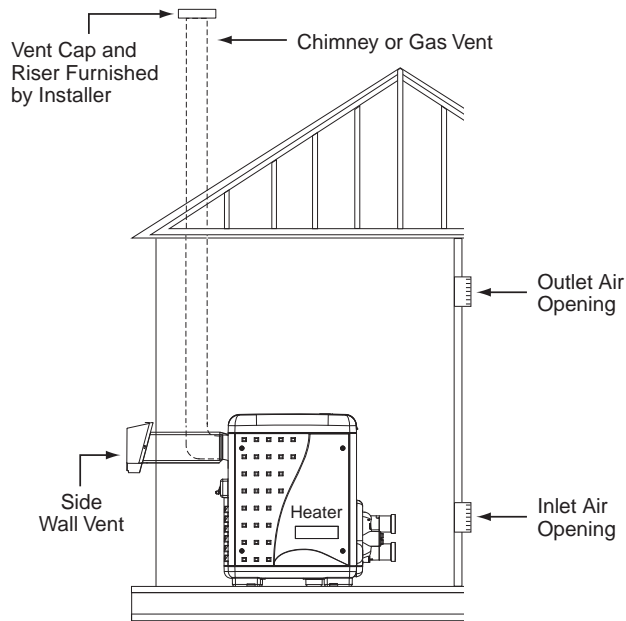

Figure 22
HORIZONTAL OR VERTICAL VENTING - USING SINGLE-WALL STAINLESS GAS VENT (SEE FIGURE 22, 23, & 24 ON PAGE 19)
6. **Vent Termination – Vertical** (See Figure 22, 23, & 24), for height of vent termination above the roof. Use an “Approved” vent terminal specified by local and national codes and your manufacturer’s instructions. A roof termination must be vertical.